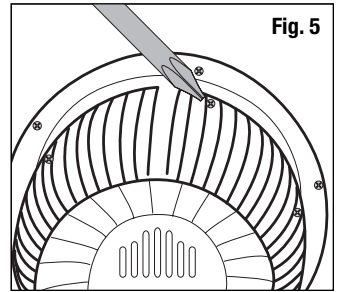

Fig. 5
- Remove the Front Grille by locating the 3 screws on the back of the fan head. (Fig. 5)